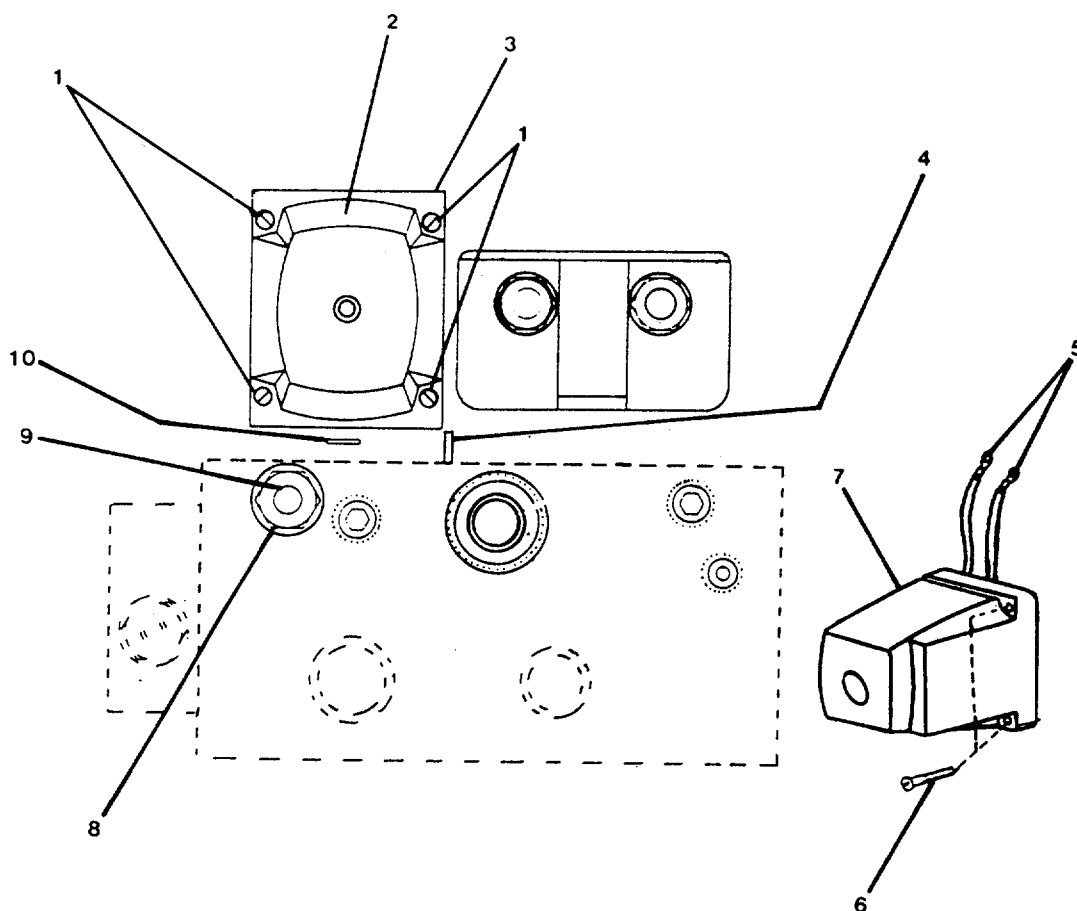

FIGURE 2-11. Coil Assembly.
**2-20. Replace/Repair Coil Assembly (FIGURE 2-11)**